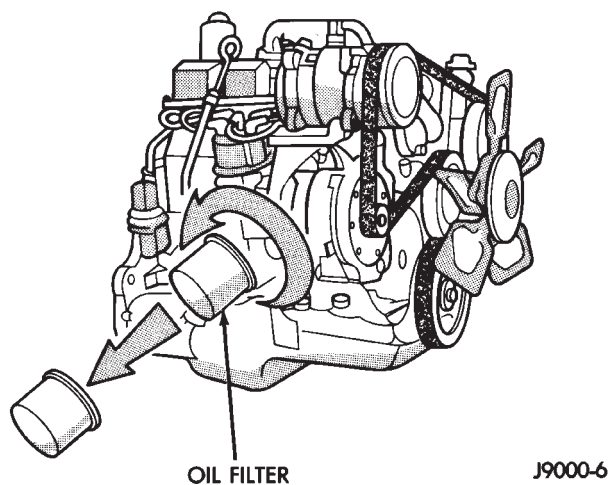

Fig. 6 Oil Filter Removal—2.5L Engine
(3) Rotate the oil filter counterclockwise to remove it from the cylinder block oil filter boss (Figs. 6 and 7).